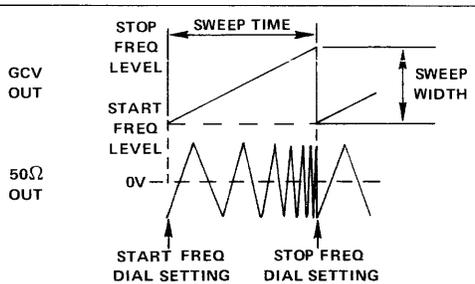

Figure 3-2. Effect of Sweep Time and Width on Output Frequency
③ **STOP FREQ Dial**
This dial is used in sweep mode only. Frequency settings of the STOP FREQ dial multiplied by frequency range ⑱ determine the frequency at which sweep is stopped. (See figure 3-2.) Setting this dial for values greater than the START FREQ dial ② settings define upward sweeping frequencies, and setting it for lower values than start frequency settings define downward sweeps.
④ **SWEEP MODE Selector**
Frequency of the internal sweep ramp, and thus, the sweep repetition rate, is governed by the SWEEP TIME control (see figure 3-2). The large knob, when rotated to a detent line, determines the range controlled by the VARIABLE knob. The range values are shown on either side of the detent line. In OFF position, the ramp generator is turned off.
The internal sweep generator ramp is available at the SWP OUT connector. Ramp frequency is varied by the SWEEP TIME control. (See figure 3-2.) Output is a 0 to +5V ramp, 600Ω source impedance.